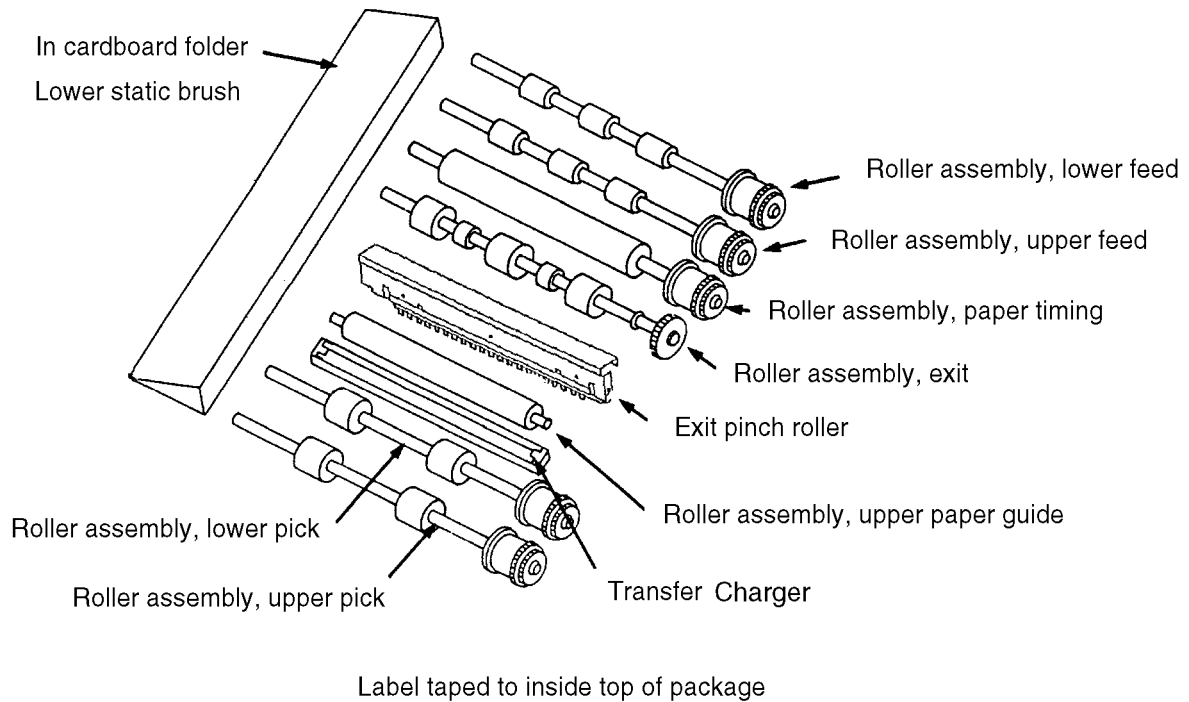

Figure 9-8. Tune-Up Kit Components
- 3** Make sure that you have received all of these replacement components, shown in Figure 9-8, “Tune-Up Kit Components,” on page 9-19: